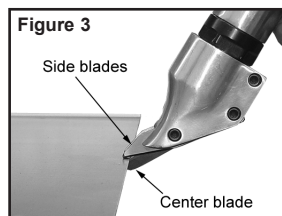

Figure 3
- Place the side blades on the edge of the top side of the workpiece (see Figure 3). **NOTE: Always lubricate the material that is being cut. Use standard machine oil on steel and mineral spirits on aluminum.**